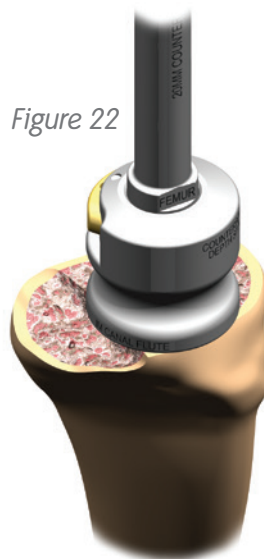

Figure 22
11. Place the Counterbore Reamer Assembly, still positioned at the "TIBIA" marking, over the Trial Stem Guide Assembly and ream until the depth stop contacts the tibial plateau (*Figure 22*).